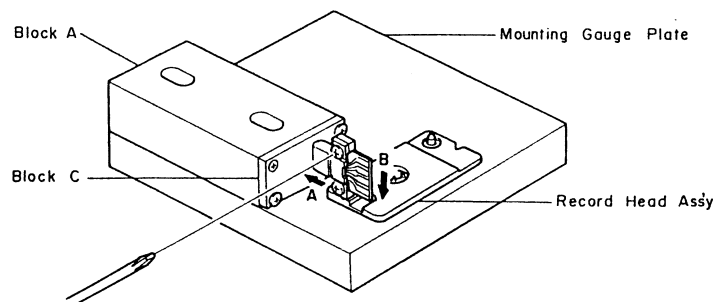

Fig. 4.28
- (5) Remove the Block B from the Mounting Gauge Plate.
- (6) As shown in Fig. 4.28, mount the R-8L record head assembly onto the Mounting Gauge Plate, then check the location of the R-8L record head surface. (If record head contacts to the Block C, loosen 2 pcs. of screws that are assembled record head and R-8L record head assembly, then place the R-8L record head assembly onto the Plate.)
- (7) Remove the R-8L record head assembly from the Mounting Gauge Plate.
- (8) Readjustment of Record Head Mounting Gauge M-9048 (DA09048A)
- (9) Remove the Block B from the Mounting Gauge Plate.
- (10) Mount the R-8L record head assembly onto the Mounting Gauge Plate.
- (11) As shown in the Fig. 4.28, loosen the R-8L record head with 2 pcs. of screws onto the record head plate. As the location of the Block A is secured by the item (8)-(c), push the record head to the directions A and B, then tighten 2 pcs. of screws.
- (12) Check to insure freedom from gap between the Block C and record head surface, then tighten the 2 pcs. of screws on the record head plate with lock tight paint.
- (13) Assemble the record head assembly to the head mount base assembly.
- (14) Assemble the head mount base assembly to the mechanism assembly.
- (15) Check the record head stroke.